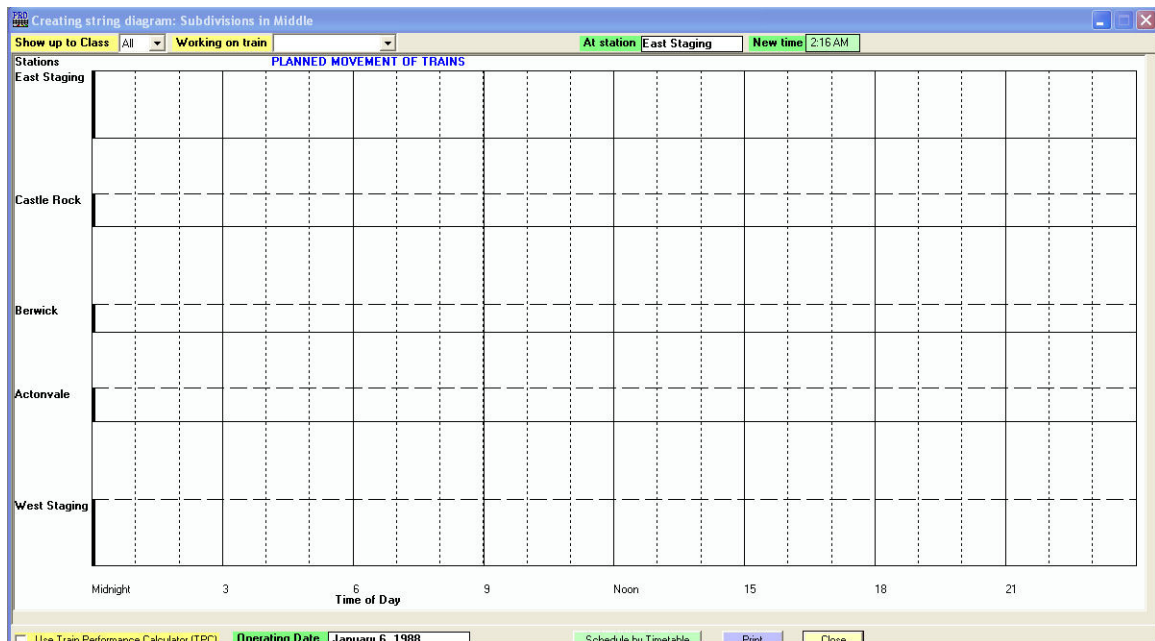

Figure 12-13
2. You can see that we are being asked to select the subdivision we want to create a string diagram for. In our case we currently only have one subdivision so all we need to do is either click on line 0 then click on “OK” or double-click on line 0. We’ll now see a window which looks like Figure 12-13 (a larger version of this window is in Appendix C).